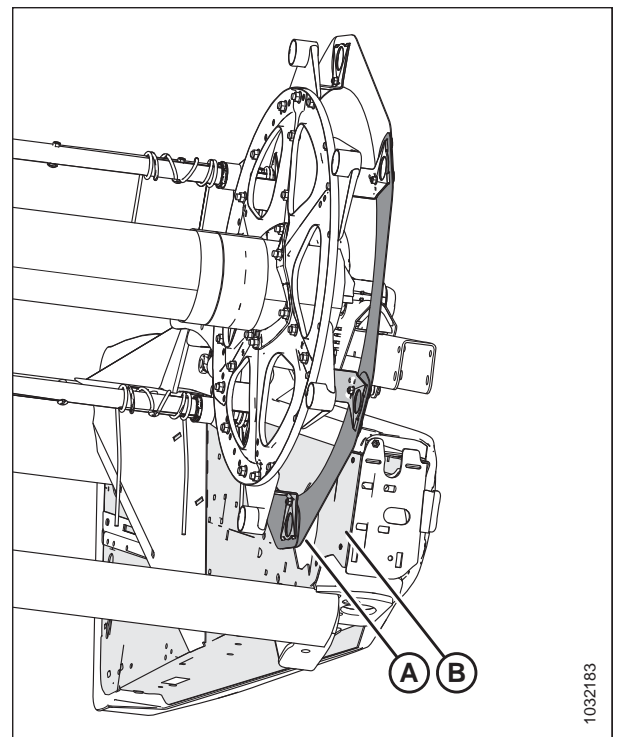

Figure 5.272: Reel Endshield and Header Endsheet
3. Measure the clearance at locations (A) between the reel and each of the endsheets. The clearances should be identical if the reel is properly centered. To see locations (A) in greater detail, refer to Figure 5.272, page 555.